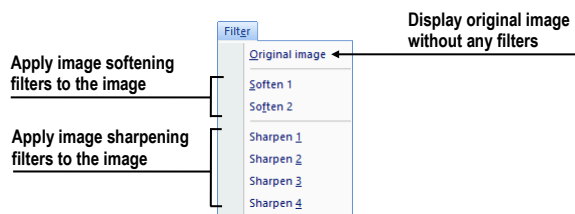

Figure 38 – Filter menu
- **Filter** – filters for image softening or sharpening in the current view (see Figure 38).